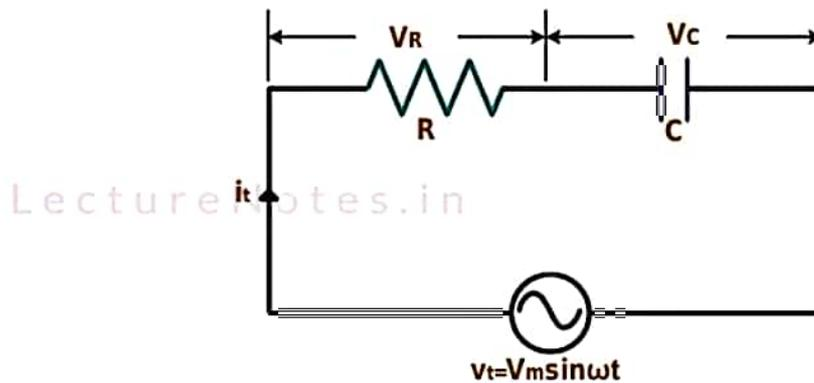

Figure 2.28 Circuit Diagram of Series R-C Circuit
- Consider a circuit consisting of a resistor of resistance R ohms and a purely capacitive of capacitance farad in series as in the Fig. 2.28.